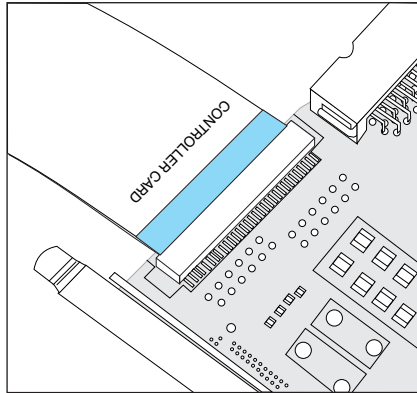
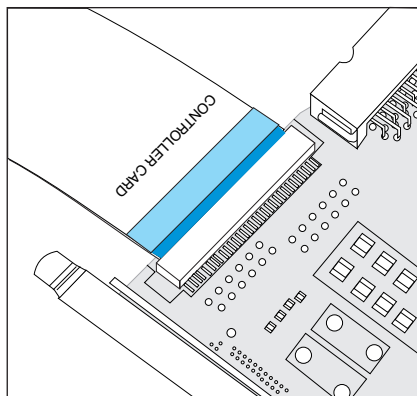

Figure 147. Service Controller card cable installed properly
Figure 148. Service Controller card cable not properly seated
- b. Before you reconnect the ribbon cable, ensure that its contacts are downward. *Carefully* install the cable to the rear of the service controller, being sure to install the cable straight in with no rocking or twisting during installation. Be sure to verify that the dark blue line on each cable connector end is not visible. This ensures that the cable is fully seated. See Figure 147 on page 478 for an example of the cable when it is installed properly and Figure 148 on page 478 for an example of the cable when it is not installed properly.